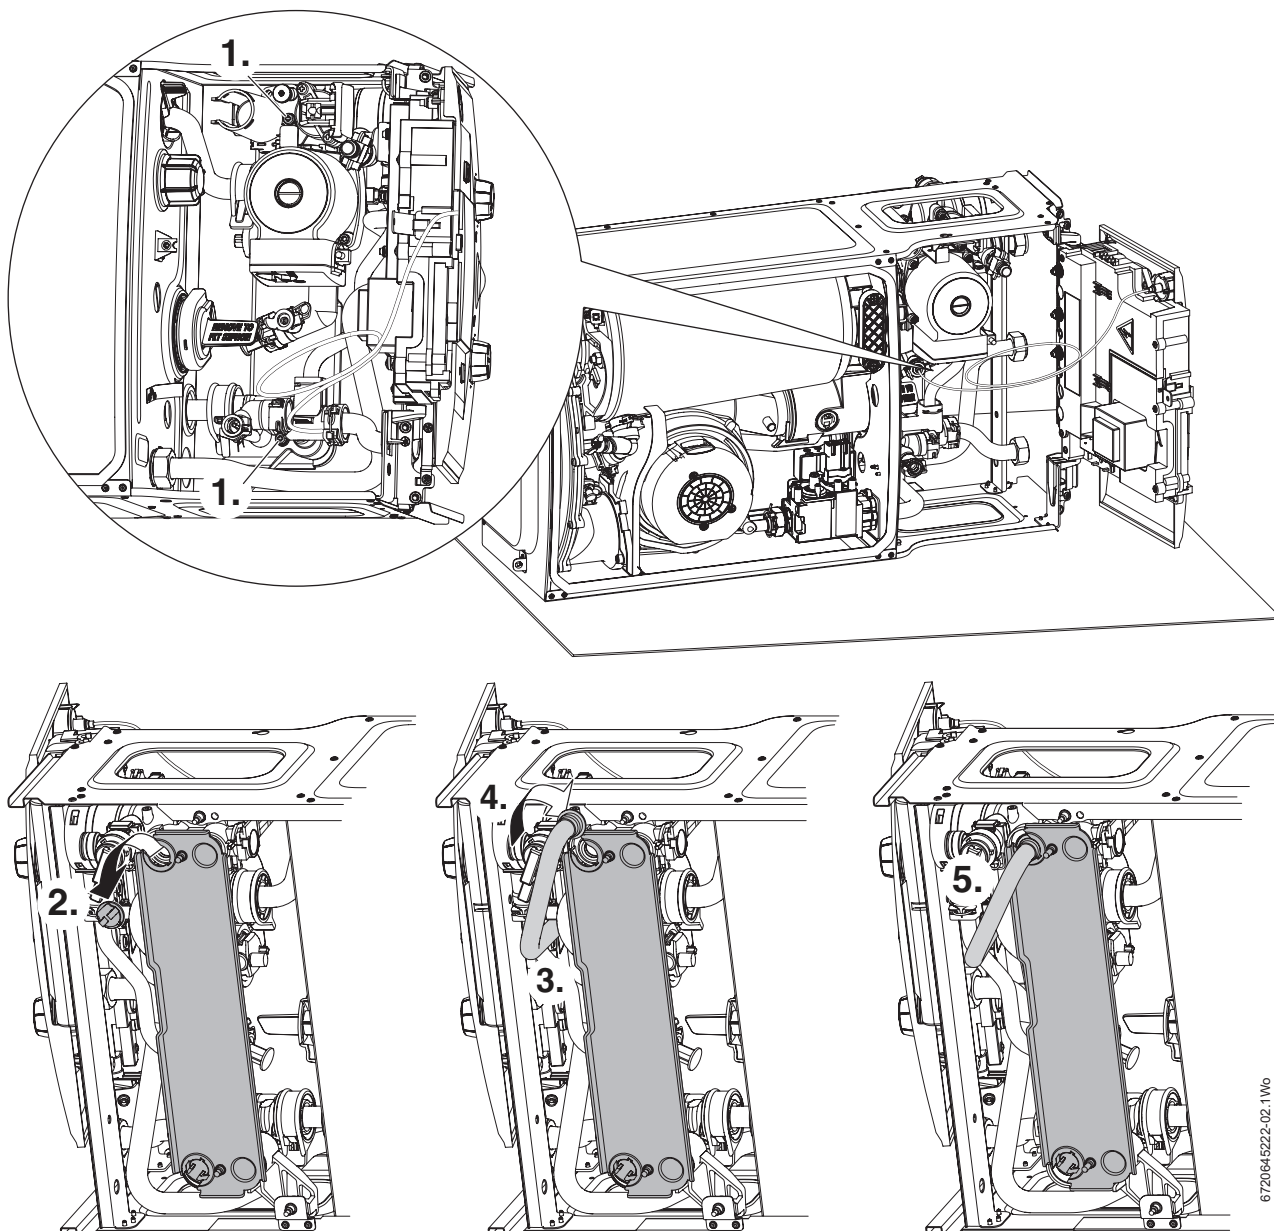

Fig. 3 Hot water return pipe fitting
1. Loosen the two retaining screws to free the back clamping plate on the hydraulic block as shown in figure 3.
5. Secure the clamping plate by re-tightening the two screws (1) loosened in step 1.